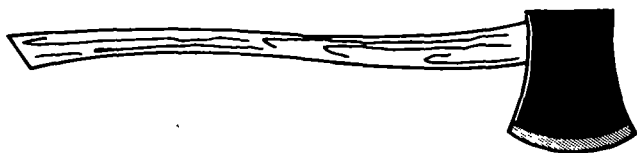

Figure 32. The single bit ax.
a. Single Bit Ax. The single bit ax (fig. 32) is a chopping tool consisting of a steel head and